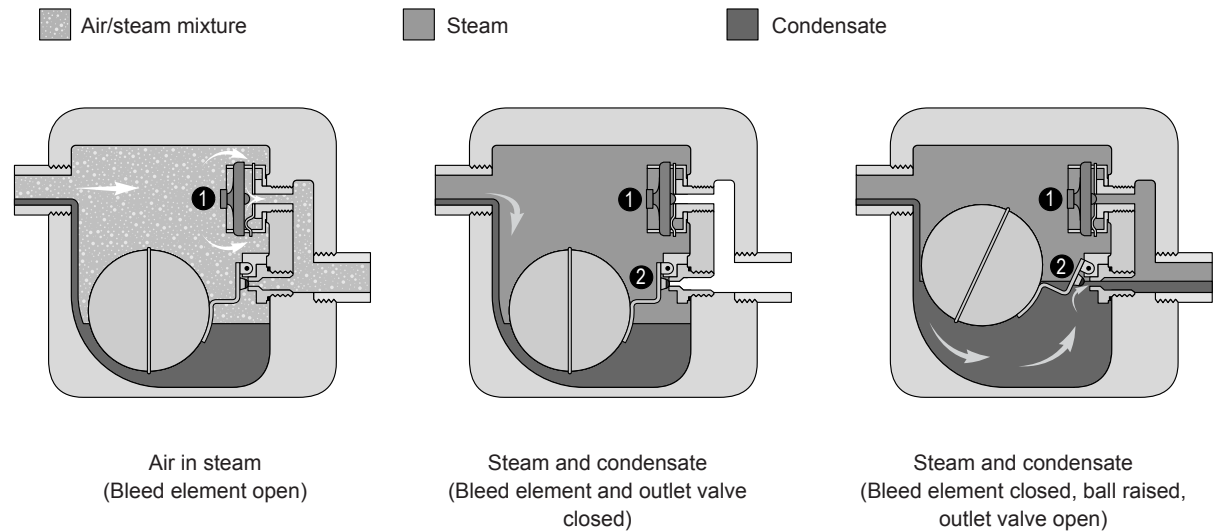

Fig. 19: How the ball float steam trap works
If there is air in the steam, the saturated steam temperature is not reached at the corresponding pressure and the thermal bleed element (1) opens (see Fig. 19, left). As soon as the air has escaped from the ball float steam trap, the saturated steam temperature rises and the thermal bleed element closes (see Fig. 19, centre).
The condensate from the valve unit collects in the float housing. If there is no or only a small amount of condensate in the float housing, the outlet valve (2) is closed, which is connected to the ball float via a lever (see Fig. 19, centre). If the condensate level rises, the ball float is raised, the lever opens the outlet valve and the condensate drains (see Fig. 19 right).